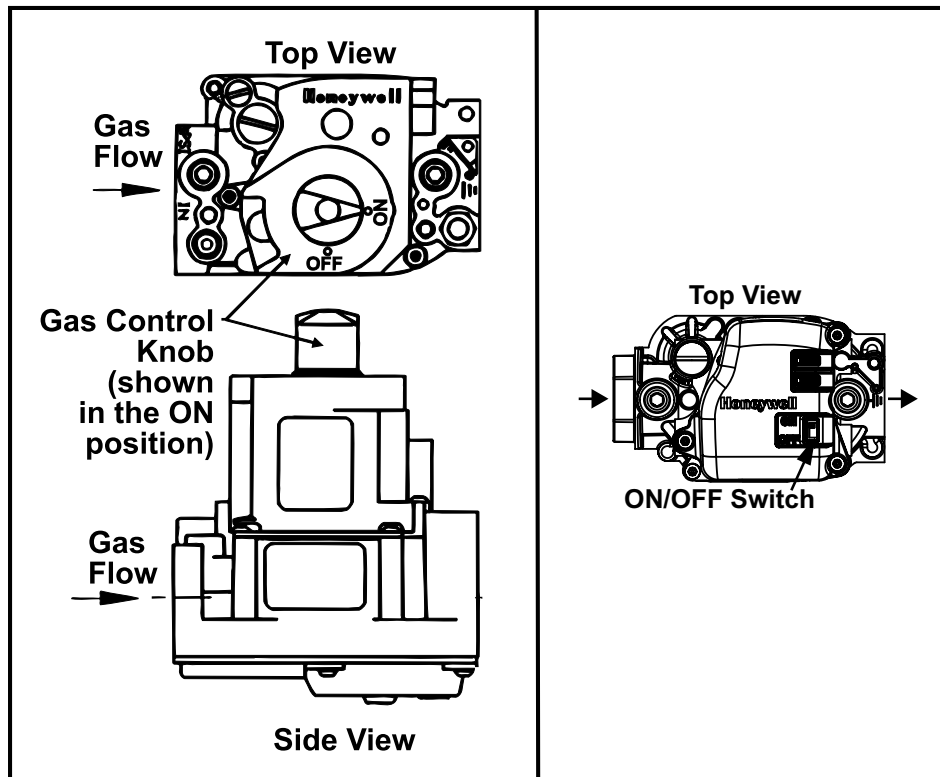

Figure 13. Gas Valve ON/OFF Control
- Open access door and locate gas control (ON/OFF) knob or switch on gas valve (see Figure 13).